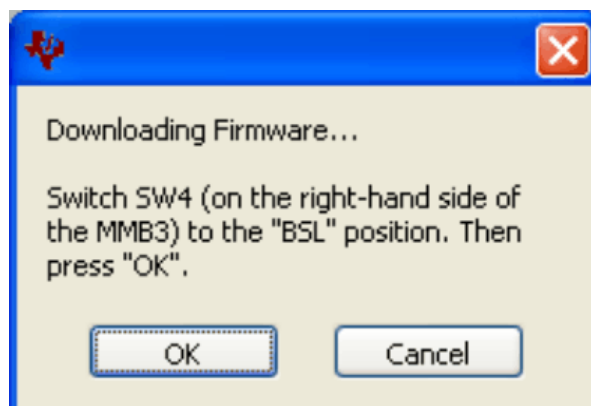

Figure 10. Firmware Download Message Box
- Step 5. The plug-in will detect whether or not the board has the correct firmware loaded. The first time you use the ADS1115EVM-PDK, the firmware for the MMB3 may need to be downloaded to the MMB3. If the firmware needs to be loaded, you will see a screen as shown in Figure 10.